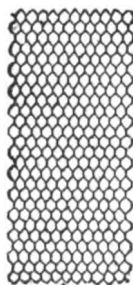
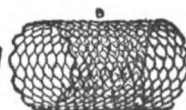

Fig. 63.
Fig. 64.
- Fig. 63.—Piece of wire netting.
- Fig. 64.—Same made into a cylinder.
take a small strip of wire netting (A, Fig. 63), and bend the ends together, so as to form a cylinder (B, Fig. 64) about 1 foot in diameter and 2 feet long; fasten the netting into this form by wiring the edges of the netting together. Next cut out two pieces of netting and make them to fit over the ends of the cylinder B in such a manner as to leave a half circular opening at each end, as